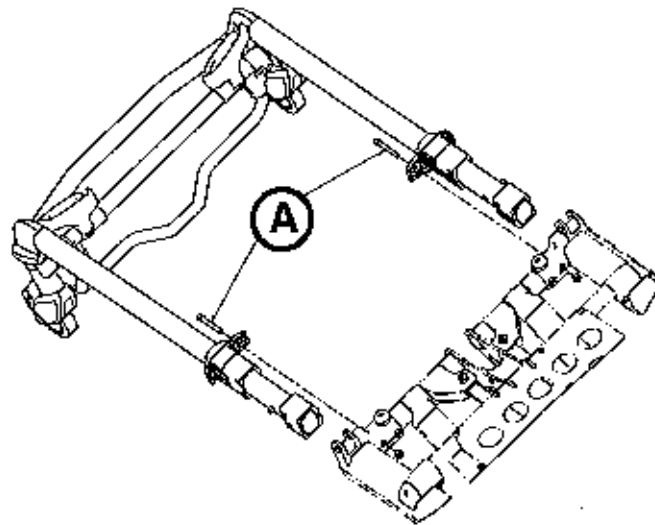

Figure 47
2. Using a 7/16" combination wrench and a 3/16" hex wrench, remove the two screws (A) that secure the cap bearings to the base litter interface bracket (one on each side) (Figure 47).